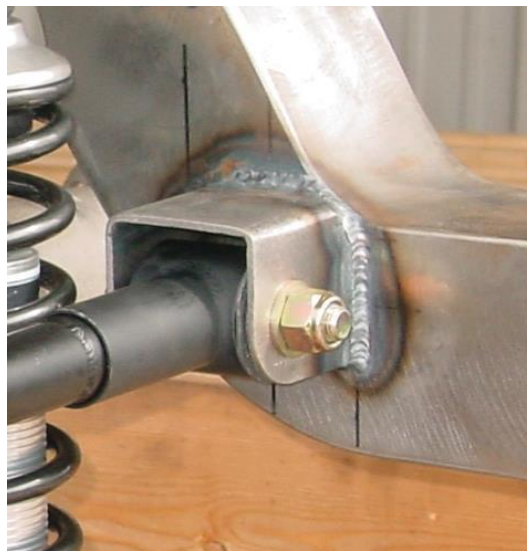

Figure 9 – Track Bar Chassis Mount
4. Position the track bar chassis mount against the inside of the passenger side framerail. It should be square to the framerail with the opening of the bracket facing down so the track bar can be easily removed. The track bar mount should be located on the framerail so that the track bar is level with the ground at ride height (Figure 9). Tack weld in place.